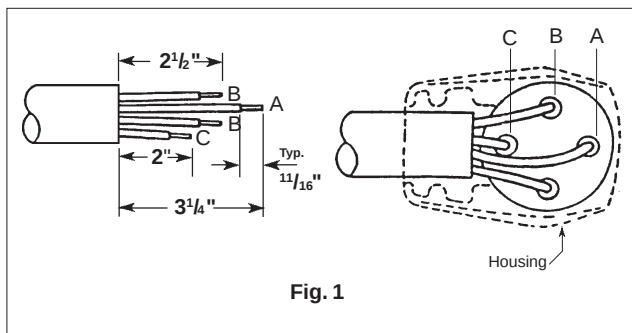

Fig. 1
- Strip cord jacket and each conductor as shown in Fig. 1. Note that the blade pattern can be positioned in any of 4 directions by rotating the contact assembly in the housing. This will determine the length of each color wire. Twist wire strands on each conductor. DO NOT TIN CONDUCTORS.